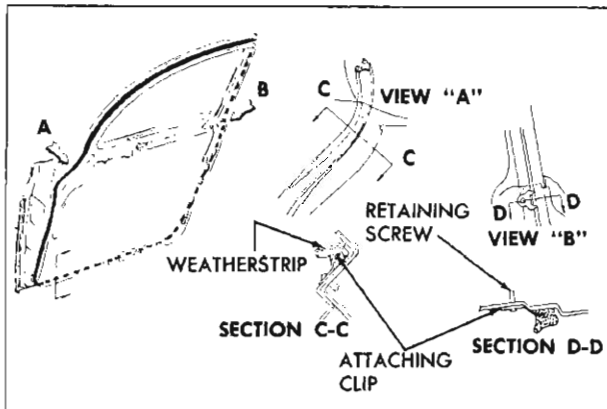

Fig. 38—Two Prong Weatherstrip Attaching Clip
2. Some weatherstrips may be additionally secured by a two-prong clip, attached to lock and/or hinge pillar of door at belt line. This clip is attached by a single screw and must be removed prior to removal of weatherstrip. When clip is reinstalled, make sure both prongs are positioned over wire located in center of weatherstrip. Figure 38 shows clips attached to a front door weatherstrip but is typical of rear doors. This clip can be satisfactorily used to retain almost any area of a rear door weatherstrip that proves troublesome (fig. 38).
6. Press weatherstrip into place at cemented areas and, if applicable, reinstall weatherstrip two-prong attaching clip. Make sure prongs of clip are inserted over wire of weatherstrip (fig. 38).